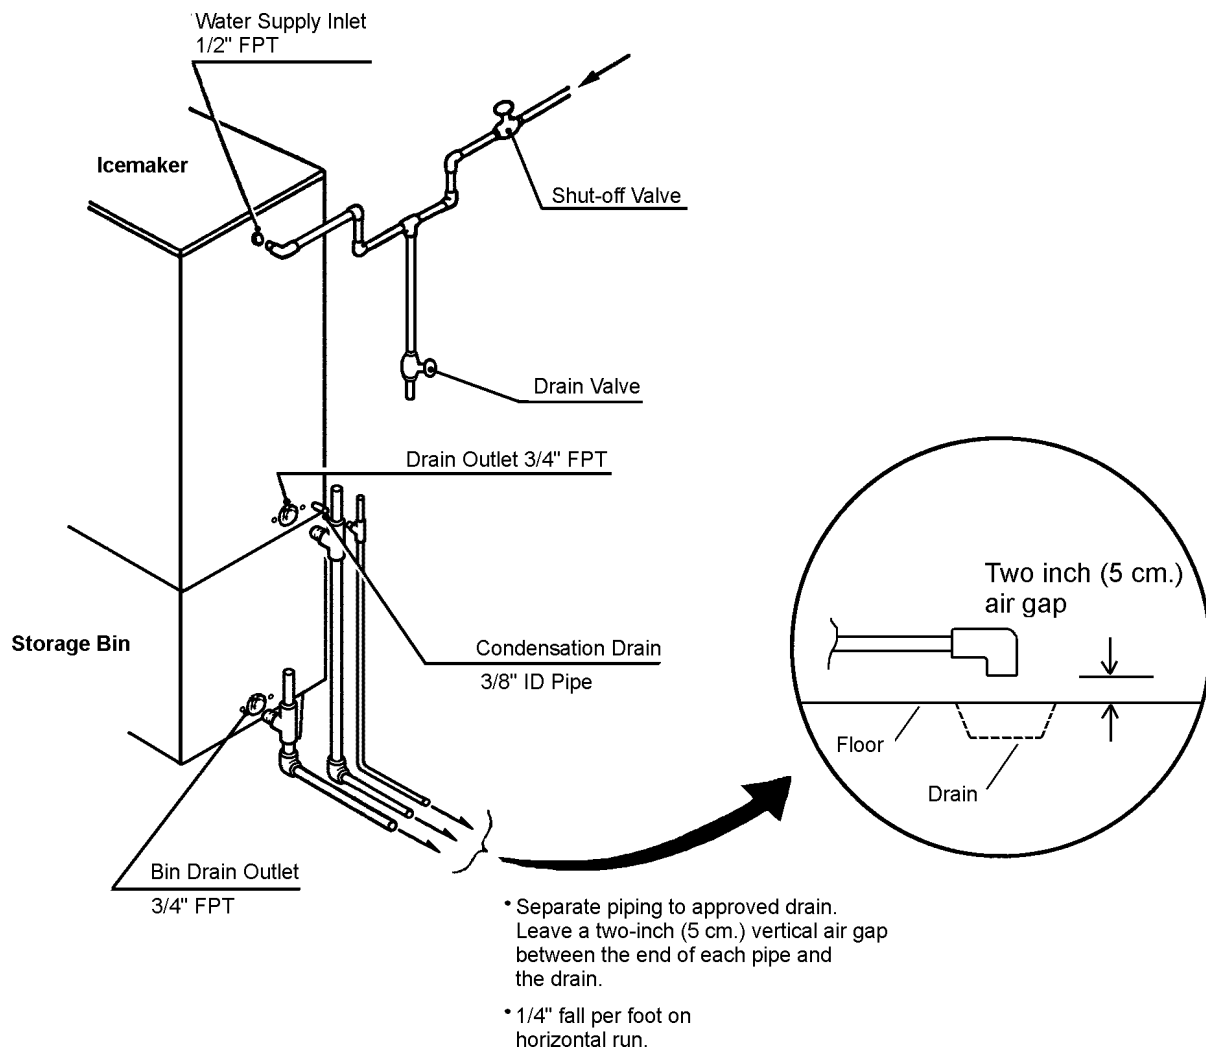

Fig. 11
7. WATER SUPPLY AND DRAIN CONNECTIONS - See Fig. 11
- 4) Close the Potable Water Supply Line Shut-off Valve and open the Potable Water Supply Line Drain Valve. See Fig. 11.